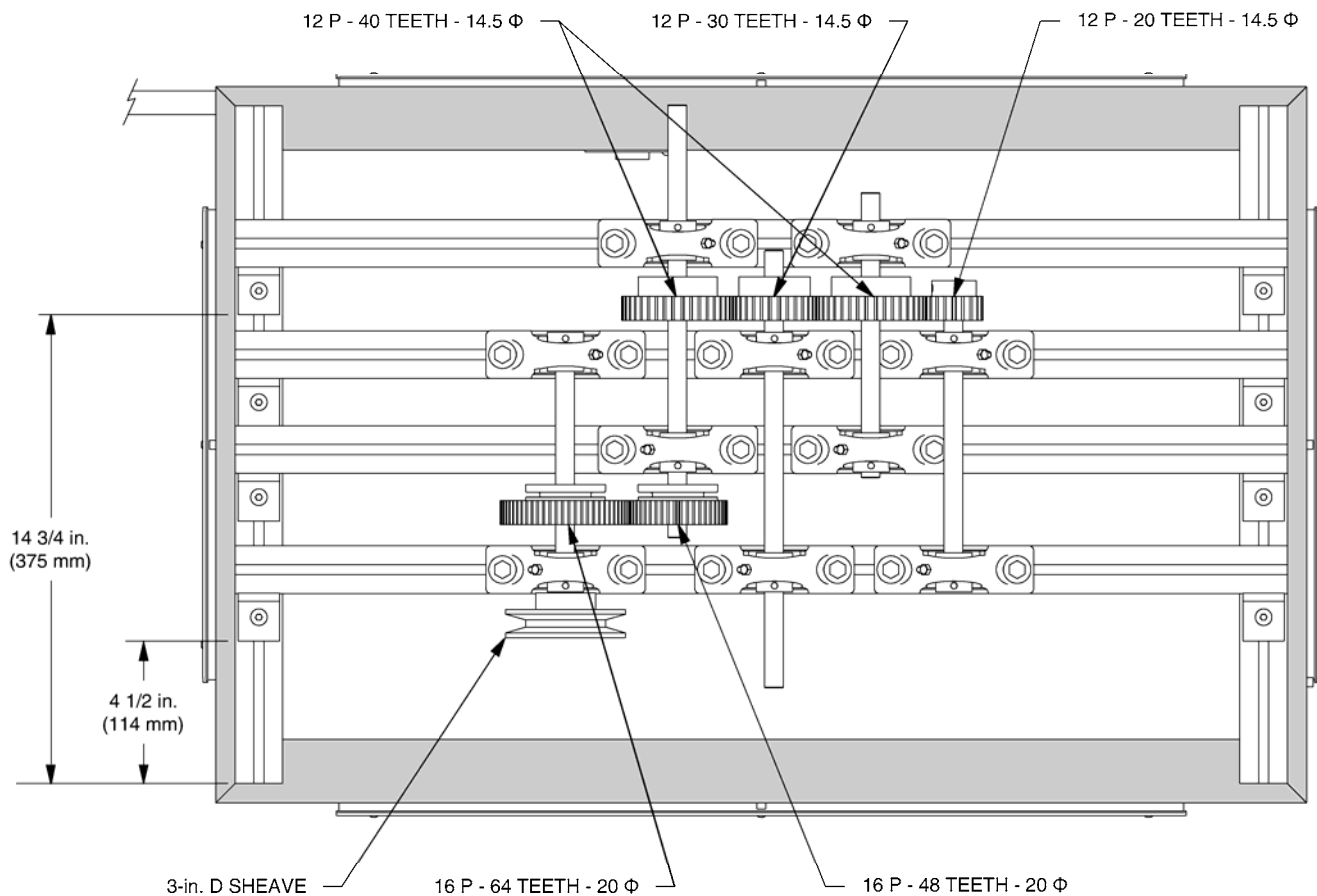

Figure 7-2. Universal base setup.
- ☐ 6. Set up a compound gear drive as shown in Figure 7-2.